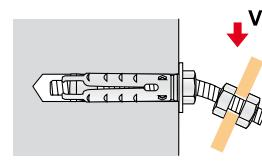

fig.21
- Steel failure with lever arm (fig.21): where the shear load is applied at a certain distance from the wall which causes a bending moment M on the anchor proportional to the shear load V and the lever arm. This type of failure greatly penalises the anchor resistance. In fact the failure with shear arm is often the failure mode with the lowest resistance.